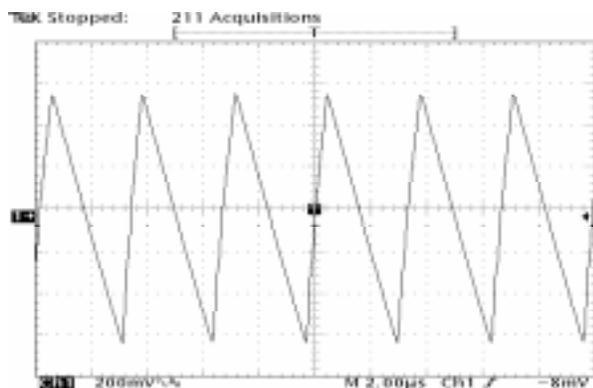

Figure 17. Timing Capacitor Waveform on Pin 15
9. **Check CEXT.** Using the oscilloscope, observe that there is a triangular wave shape on pin 15, see Figure 17. The frequency of this pin varies with the external capacitor selected and the output loading conditions.